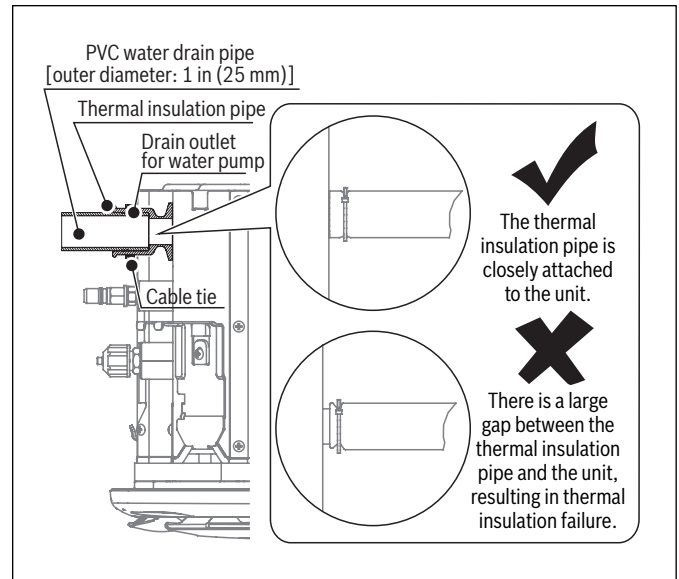

Figure 33
- Wrap the insulation (field supplied) over the metal clamp and drain hose to insulate. See Figure 33.